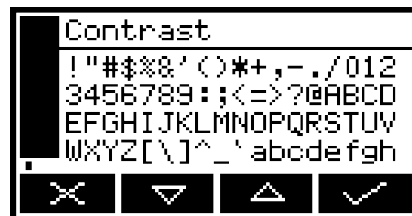

Figure 37: The Contrast screen
1. On the Settings screen, highlight the "Contrast" option, then press the  soft key. The Contrast screen will then be displayed, as shown in Figure 37.